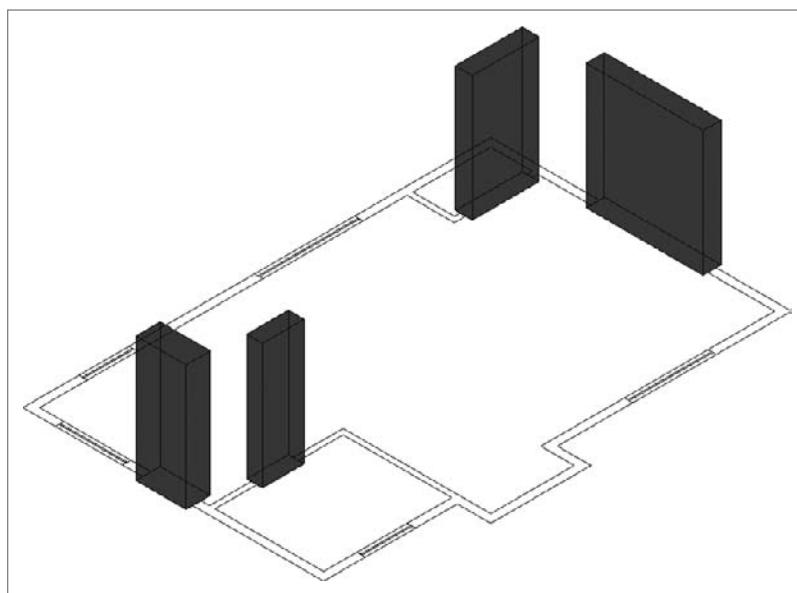

FIGURE 16.18 All the thick door block-outs in place
11. Repeat the process for the other three door block-outs so that each is thicker than its associated opening. Your screen should look similar to Figure 16.18.